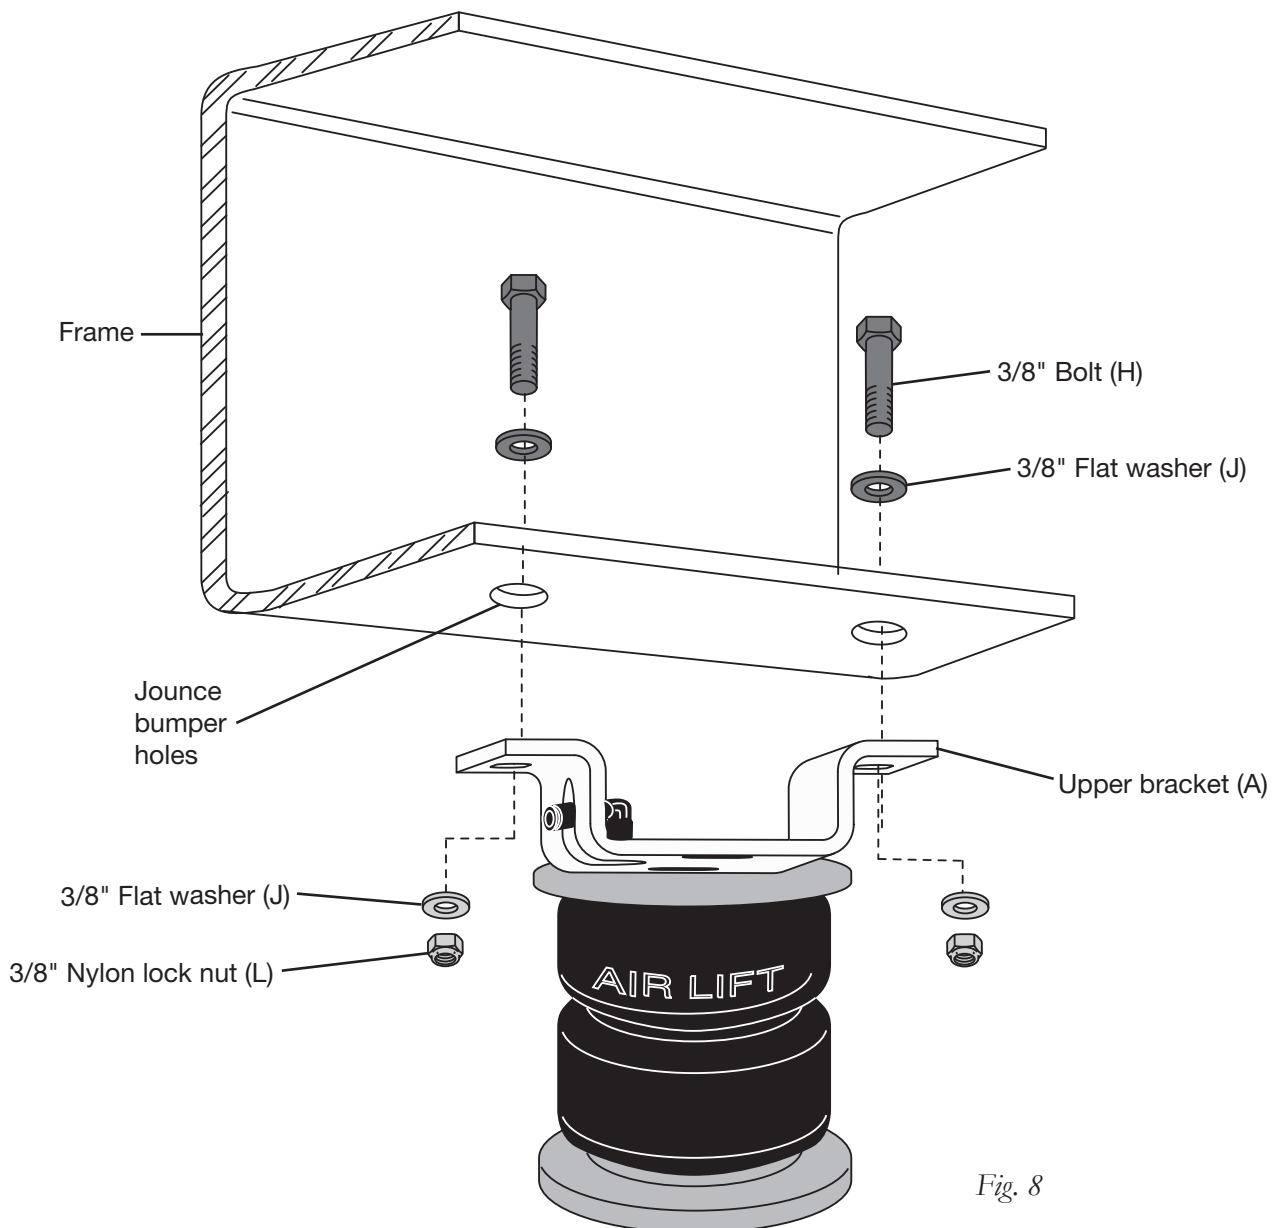

Fig. 8
2. Insert two 3/8" bolts (H) and flat washers (J) through the existing jounce bumper holes and through the slotted holes in the upper bracket (Fig. 8).
3. Attach the upper bracket using two flat washers (J) and nylon lock nuts (L) on each previously installed bolt (Fig. 8).
**NOTE** *There should be a thumbs width between the air spring roll plate (D) and the leaf spring U-bolt.*